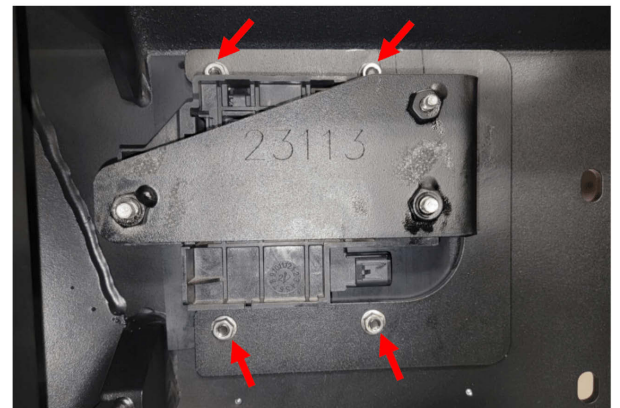

Figure 16.
16. Install the ACC sensor assembly completed in step 13 into the bumper using the provided 4x M6 black button head screw with flanged hex nuts. Sandwich the plastic sensor cover sheet (61784) between the bumper and the ACC sensor assembly. Figure 16.